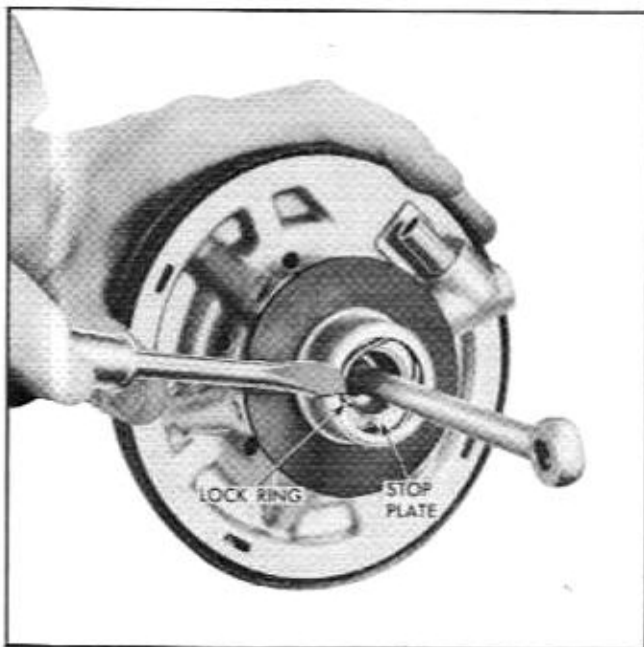

Fig. 5-69 Replacing Air Valve Lock Ring
9. Carefully turn power piston, guide, air valve and push rod assembly over and insert stop plate and triangular lock ring which hold the air valve in place. Lock ring may be assembled by using small screwdriver (Fig. 5-69). After being locked in place, the air valve will have approximately $\frac{1}{32}$ " travel against valve return spring before picking up floating valve load. *Care should be exercised during this operation to avoid damage to the master cylinder plunger. Never put the master cylinder plunger into a vise.*